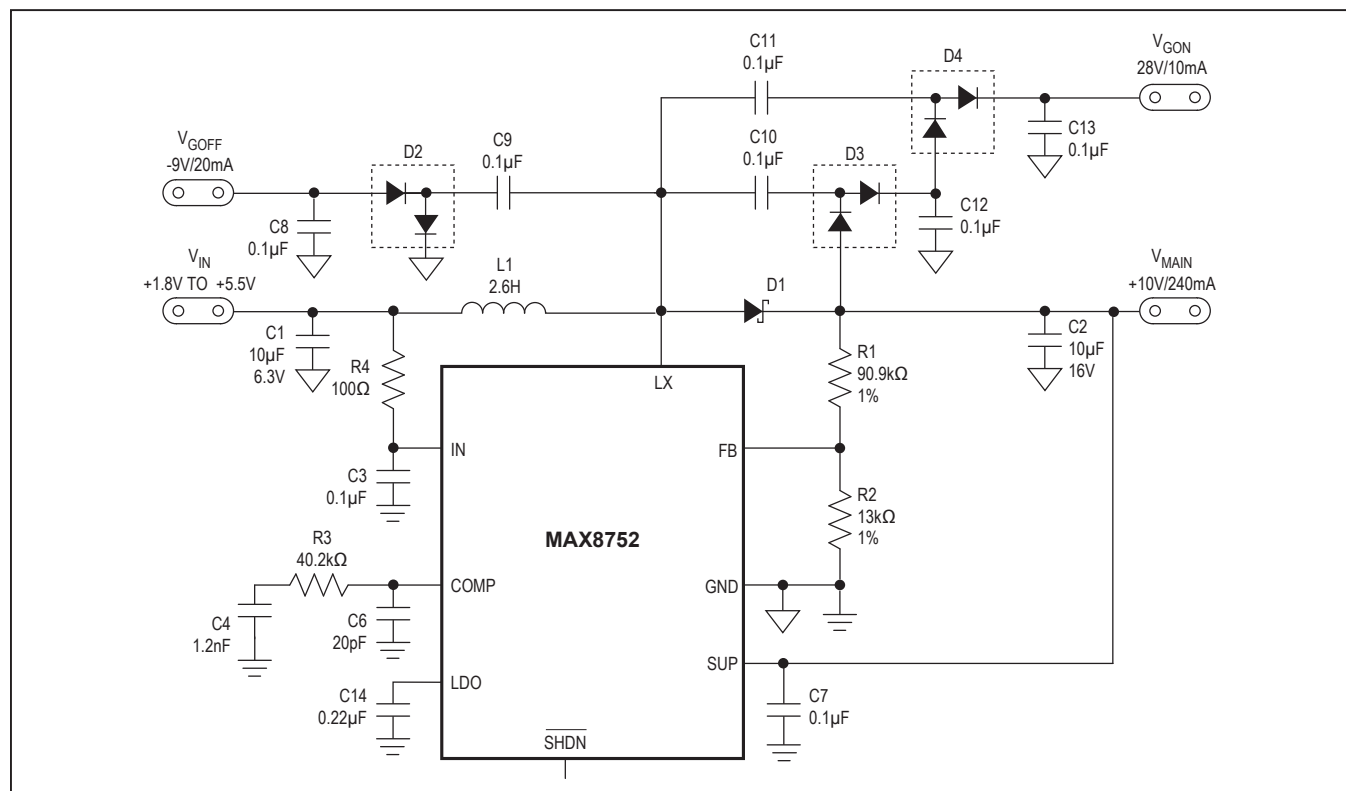

Figure 1. Typical Applications Circuit
(Circuit of Figure 1, $V_{IN} = 2.5V$, $V_{MAIN} = 10V$, $T_A = +25^{\circ}C$, unless otherwise noted.)
(Circuit of Figure 1, $V_{IN} = 2.5V$, $V_{MAIN} = 10V$, $T_A = +25^\circ C$, unless otherwise noted.)
The MAX8752 is a highly efficient, step-up power supply designed for TFT-LCD panels. The typical circuit shown in Figure 1 operates from an input voltage as low as 1.8V, and produces a MAIN output of 10V at 220mA from 2.5V input while supporting discrete diode-capacitor charge pumps that produce -9V at 20mA and +28V at 10mA. If the charge-pump outputs are not required, the diodes and capacitors associated with them may be eliminated and the main output increased to 270mA.
In Figure 1, the LCD's gate-on and gate-off voltages are generated from two unregulated charge pumps driven by the step-up regulator's LX node. The additional load on LX must therefore be considered in the inductance calculation. The effective maximum output current $I_{MAIN(EFF)}$ becomes the sum of the maximum load current on the step-up regulator's output plus the contributions from the positive and negative charge pumps:
Considering the Typical Applications Circuit (Figure 1), the maximum load current ($I_{MAIN(MAX)}$) is 180mA with a 10V output and a typical input voltage of 2.5V:
The input capacitor (C_{IN}) reduces the current peaks drawn from the input supply and reduces noise injection into the IC. A 10 μ F ceramic capacitor is used in the Typical Applications Circuit (Figure 1) because of the high source impedance seen in typical lab setups. Actual applications usually have much lower source impedance since the step-up regulator often runs directly from the output of another regulated supply. Typically, C_{IN} can be reduced below the values used in the Typical Applications Circuit. Ensure a low noise supply at IN by using adequate C_{IN} . Alternatively, greater voltage variation can be tolerated on C_{IN} if IN is decoupled from C_{IN} using an RC lowpass filter (see R3 and C3 in Figure 1).
The MAX8752 operates with an adjustable output from V_{IN} to 13V. Connect a resistive voltage-divider from the output (V_{MAIN}) to GND with the center tap connected to FB (see Figure 1). Select R2 in the 10k Ω to 50k Ω range. Calculate R1 with the following equation:
- 4) Place the SUP and LDO bypass capacitors and the IN bypass capacitors (C3 in Figure 1) if within 5mm of their respective pins. Connect their ground terminals to GND through the IC's exposed back paddle near GND (pin4).